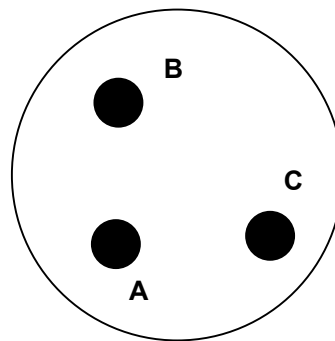

Figure 5-16. Valve Port Locations (Front View)
4. Connect the Diluent Delivery Tubing (tubing from the Diluent Nozzle Assembly to the valve) to port A of the valve (refer to Figure 5-16).
5. Connect the Valve Connection Tubing Assembly (tubing from the Diluent Syringe to the valve) to port B of the valve (refer to Figure 5-16).
6. Connect the Diluent Suction Tubing (tubing with filter that goes to D0) to port C of the valve (refer to Figure 5-16).